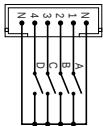

Fig. 2
- Fig. 2: Binary inputs connection (ST KNT 001 or ST KNT 002)